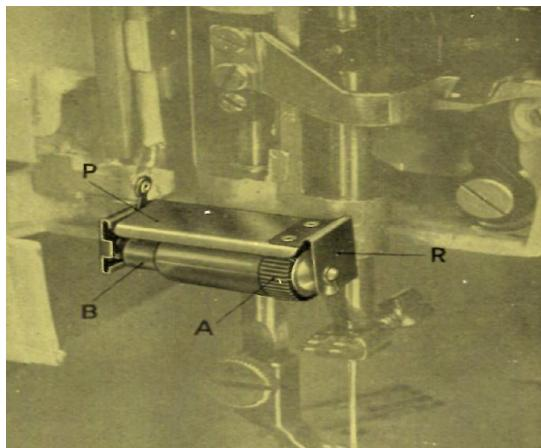

Figure 33
- b) Carefully remove old light bulb B (figure 33) by pulling it, together with its shade A downward and out of the lamp holder P. If necessary, slightly spread the wall portion R of the lamp holder to make removal of the light bulb easier.